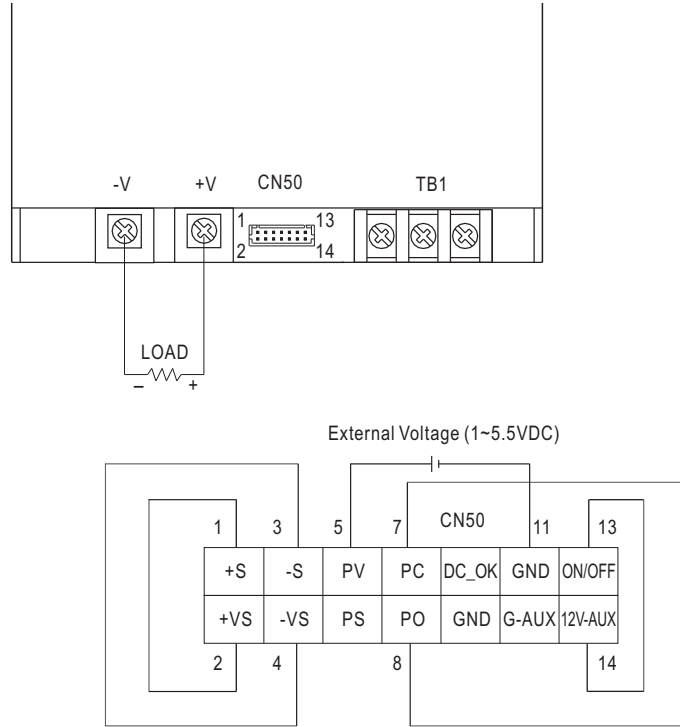

Fig 5.1
(1) Using an external DC source (1~5.5VDC) between "PV"(pin5) and "GND"(pin10,11) that is shown in Fig5.1